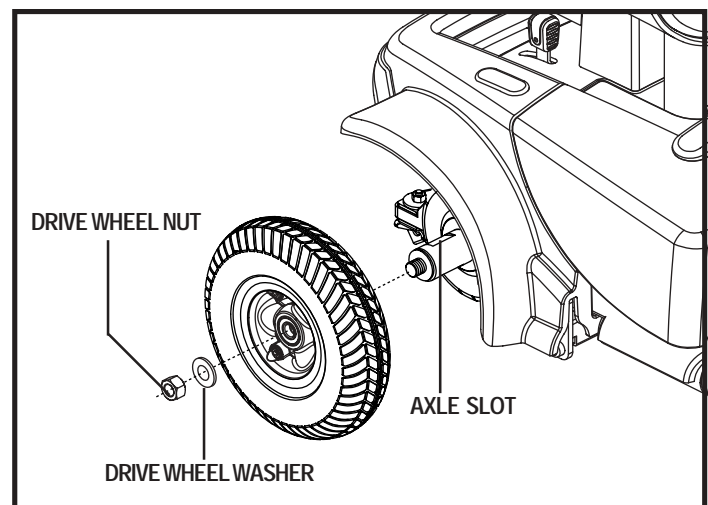

Figure 24. Z-Chair Drive Wheel
3. Remove the drive wheel nut and washer from the axle. See figure 24.